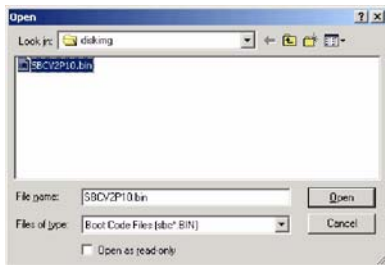

Figure 6 Selecting SBC***.bin Boot Code File
- b. Select file EKP***.os (Figure 6).